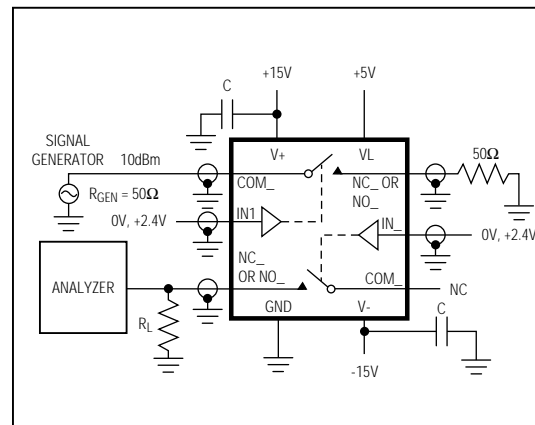

Figure 5. Crosstalk Test Circuit
**Note 6:** Between any two switches. See Figure 5.